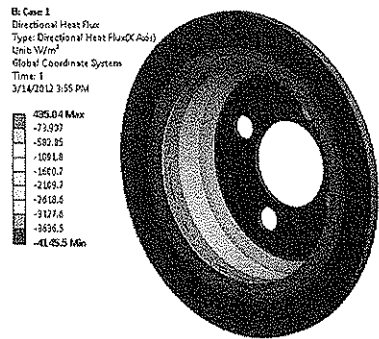

Figure 11-22 Directional Heat Flux along the X Axis for the whole body
21. Similarly, select **Directional Heat Flux** from the **Solution** node in the Tree Outline; the corresponding contours displaying the distribution of heat flux along the X axis are displayed in the Graphics screen, as shown in Figure 11-22.